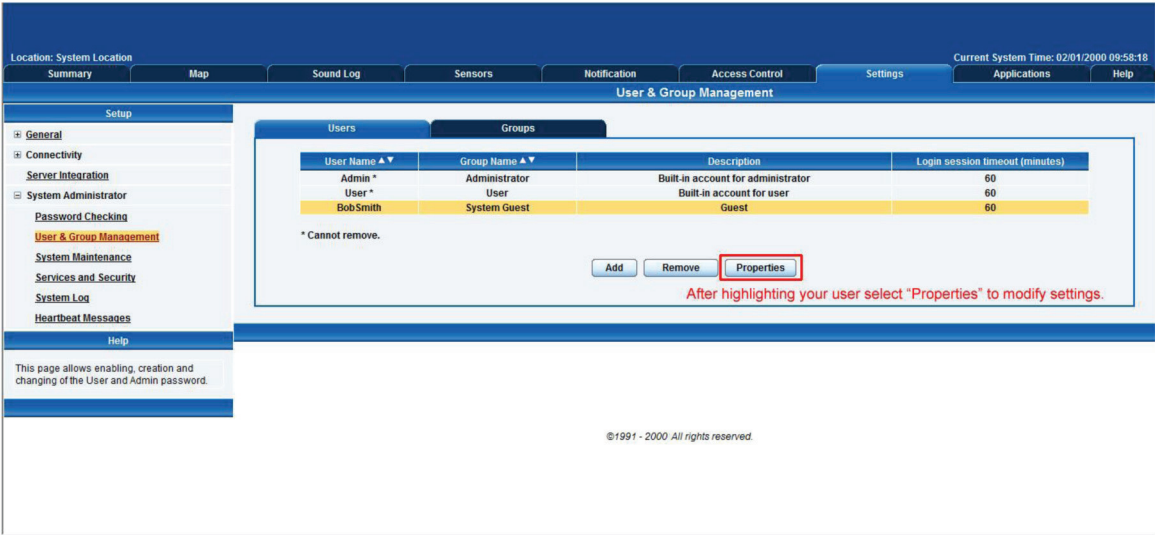

Figure 3-21. Properties button.
4. To modify a user's setting, click on the user to select it, then click the “Properties” button as shown in Figure 3-21.